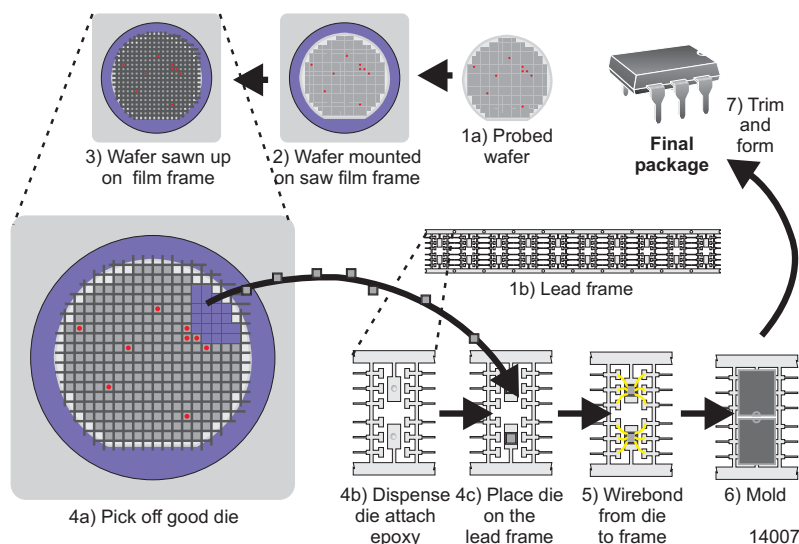

Figure 21. Plastic packaging process.
- After wafer test, the wafer is mounted onto sticky tape stretched over a metal frame. The backside - non circuit side of the wafer is stuck to the tape. An automated - high speed saw with a very thin diamond blade is used to saw apart the die. There is an area between each die that has no circuitry referred to as a street so that sawing does not damage the IC circuitry. The sticky tape serves to hold the individual die in place after sawing, see figure 21 - 1a through 3.
cal connection pins that protrude from the package. The leadframe also includes a pad that the die is epoxy mounted to, see figure 21 - 4a through 4c.
- Tiny wires, typically gold, are now attached from each bond pad down to a corresponding leadframe pin. This is the electrical connections from the die to the pins that eventually connects the die to the outside world. Wire bonding is also performed by automated systems referred to as wire bonders, see figure 21 - 5.
- A rectangular area of black epoxy is now molded around the die and leadframe leaving the leadframe pins sticking out. Molding is accomplished in large presses under heat and pressure, see figure 21 - 6.